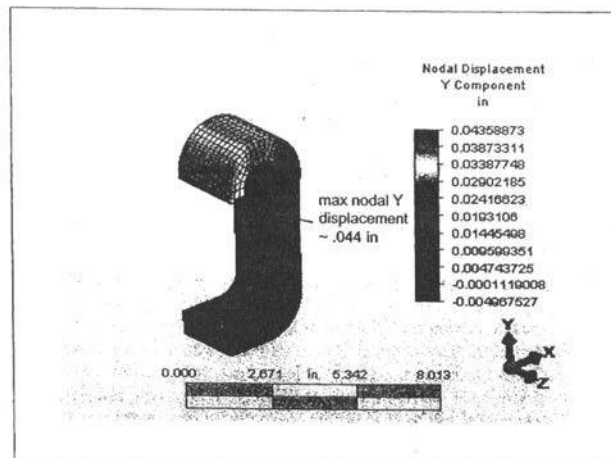

**Figure 2** Loads and Constraints
**Figure 2** von Mises stress on our designed s-block